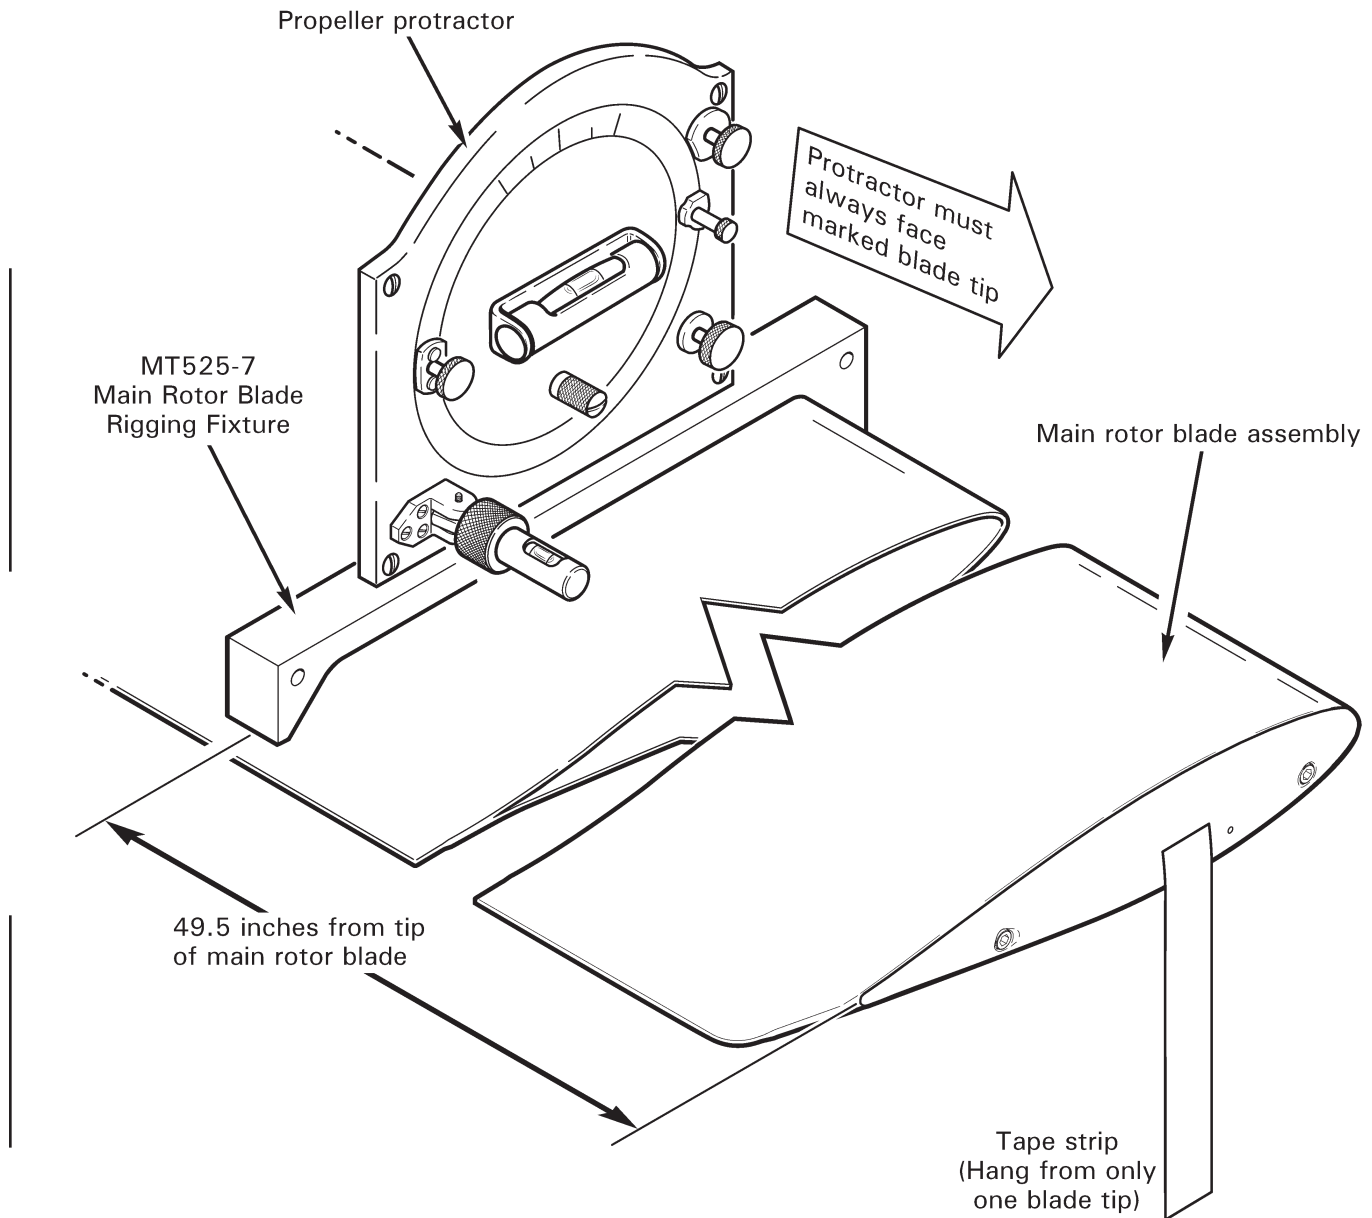

FIGURE 18-10 MAIN ROTOR BLADE RIGGING
2. Refer to Figure 18-10. Using felt tip marker, mark upper surface of both main rotor blades 49.5 inches inboard of seam between blade tip and tip cover. Lay 1-inch wide length of masking tape chordwise on each blade, centered over marking. Mark each rotor blade with a different designation, such as red and blue.